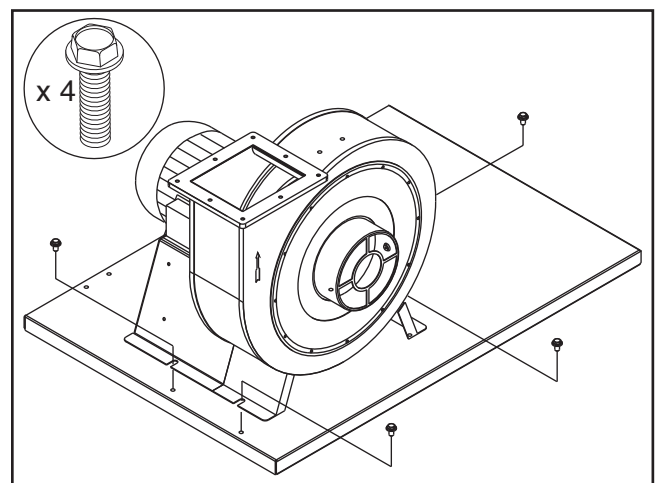

Figure 24. Mounting collector to base.
- Set the collector body on top of the base plate so the intake portion is near the edge of the base plate and the bolt holes are aligned, as shown in **Figure 24**. Secure the collector body to the base plate with (4) 5/16"-18 x 1/2" flange bolts.